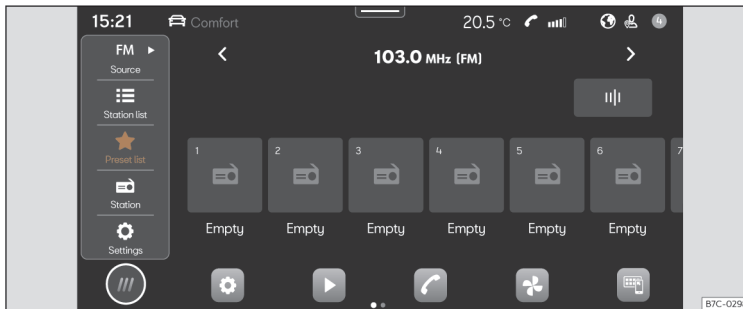

Fig. 127 Schematic representation: Radio view
- Press **HOME** > >>> **Fig. 127** .